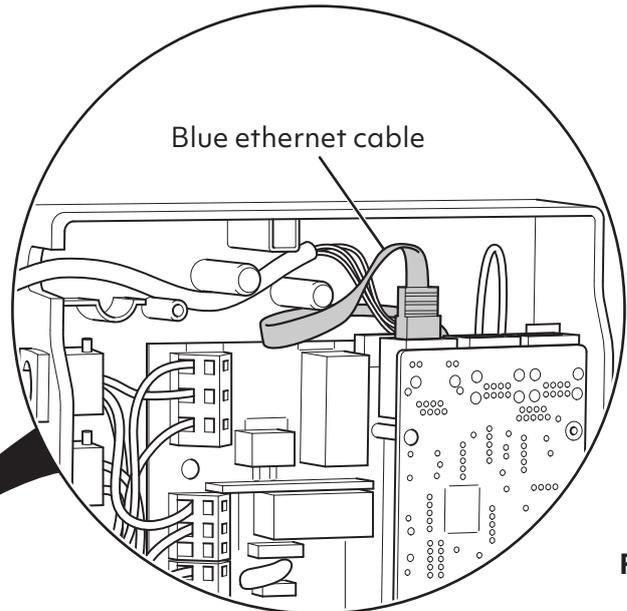

Fig. 27
1. Unscrew and remove the cylinder controller's cover and then disconnect the blue ethernet cable (Fig. 27).